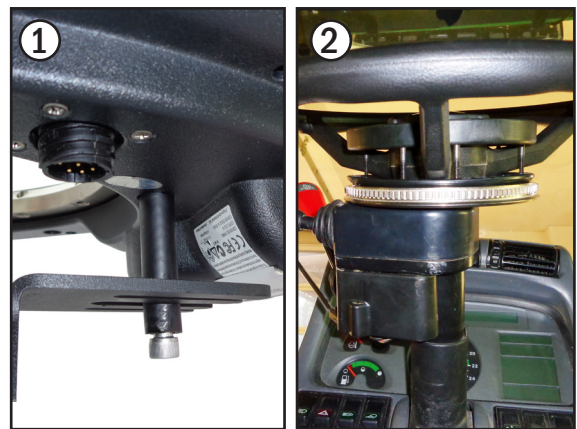

Fig. 10: Place RDU2 in the bracket and on the sprocket
- Place the RDU2 on the bottom side into the central opening of the bracket on the steering column using the screw (see Fig. 10 – 1).
- Place the RDU2 on the premounted sprocket on the steering column (see Fig. 10 – 2).